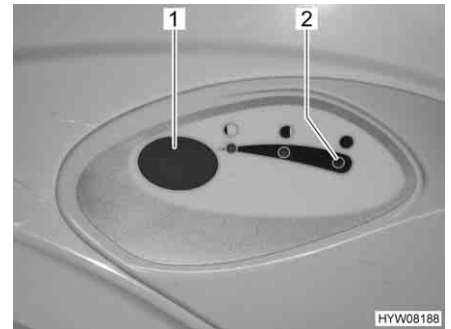

Fig. 261 Flush button/indicator lamp (Thetford toilet)
- For flushing, press the blue flush button (Fig. 261,1).
The indicator lamp (Fig. 261,2) lights up whenever the sewage tank has to be emptied.